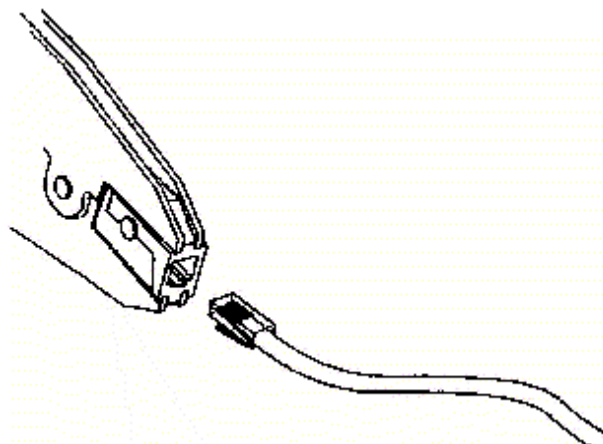

Figure 5.10 Crimping the connector.
8. Insert the connector into the crimp tool as shown in Figure 5.10. If the shield is not to be connected, make sure it is cut off or insulated from the connector shell. Crimp the connector, making sure that the metal tabs on the connector are crimped around the wire.